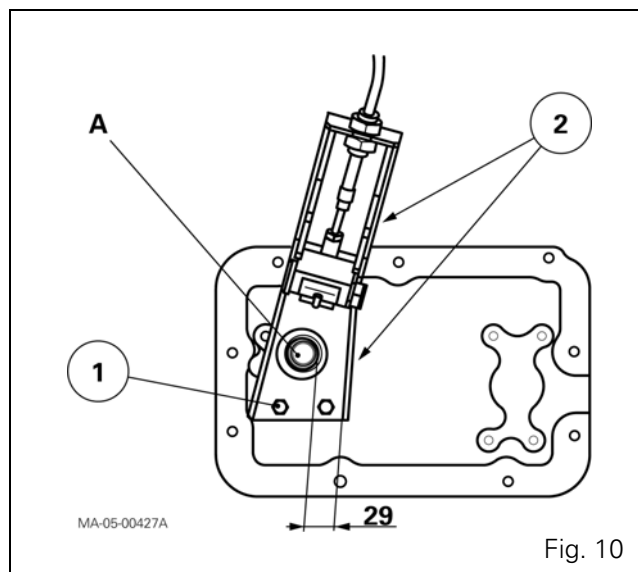

Fig. 10
60. Refit the support (2), allowing a distance of **29 mm** between the support and the 22 mm diameter of pin A (Fig. 10).